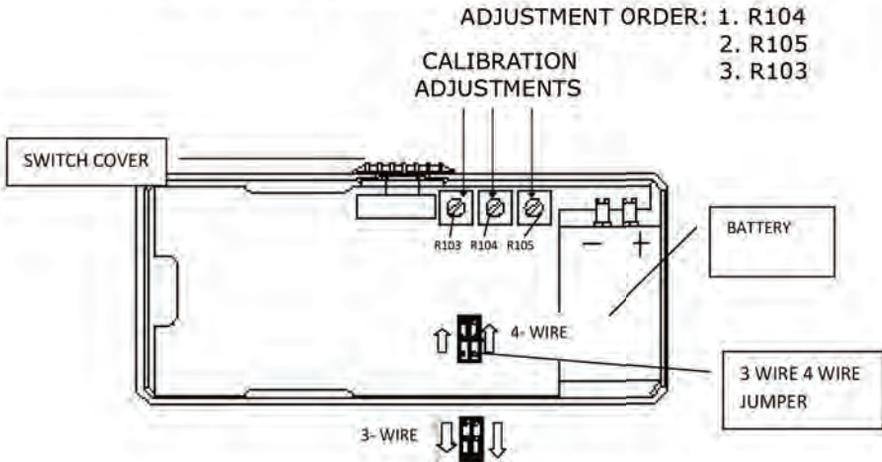

Figure 3-2. Component Locations
- Set the 3 WIRE/4 WIRE jumper (see Figure 3-2) to the desired position, as indicated in figure 3-2.
5. Refer to Table 5-1. Calibration procedures are outlined here. Perform each step in the procedure in the order shown, by setting the decade box to the precise value listed and then adjusting the associated calibration potentiometer for the required reading on the display. Potentiometer locations are shown in Figure 3-2.